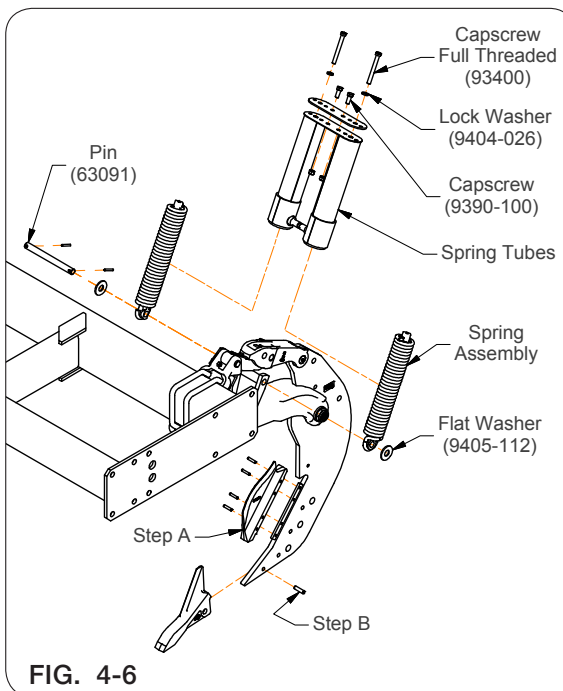

FIG. 4-6
5. Remove pin holding lower end of spring (use caution, springs may fall to the ground). Observe the position and location of parts along with the direction the spring guide tubes are positioned inside the springs before removing pin (Fig. 4-6).
6. Remove springs, note washer position (Fig. 4-6).